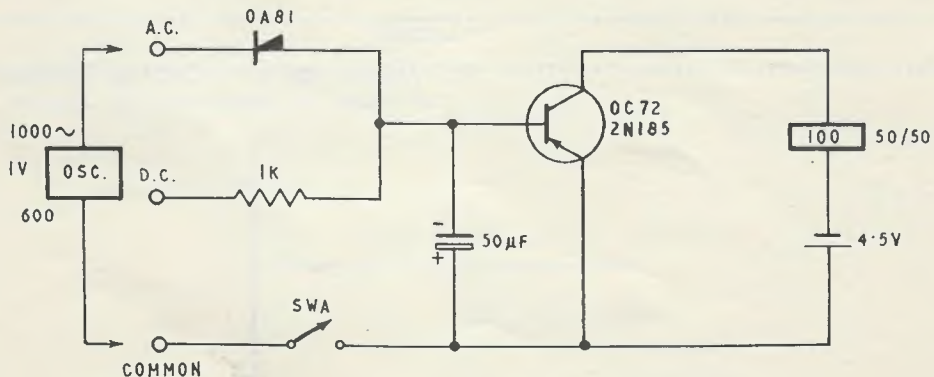

FIG. 2.
**STEP 4.** Connect the circuit as shown in Fig. 2.
2. In Fig. 2.